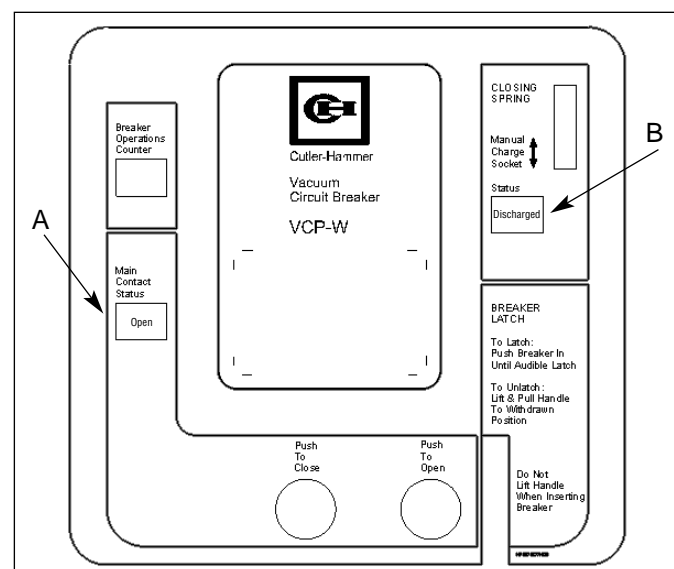

Figure 6-5 Status Indicators ("A" shows the contact status indication and "B" shows the spring indication.)
Step 1 - On the front cover identify the status indicators. MAKE SURE THE CLOSING SPRING STATUS INDICATES “**Discharged**” AND THE MAIN CONTACT INDICATOR SHOWS “**Open**” (Figure 6-5).